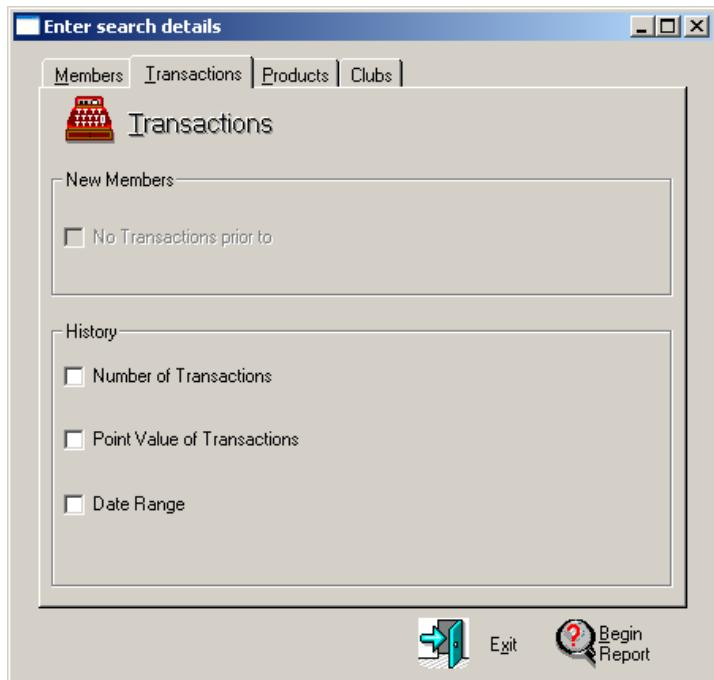

Figure 411
4. The second tab in Club Analysis (see Figure 411) enables you to report on club activity.